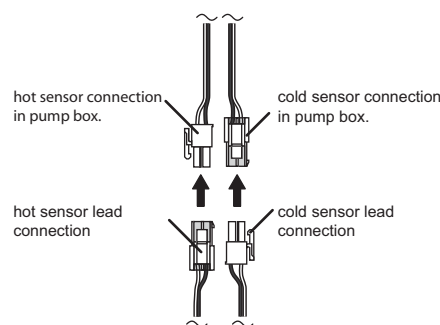

Figure 31 - Temperature Sensor Leads
1. Ensure hot and cold sensors are connected as shown **Figure 31**.